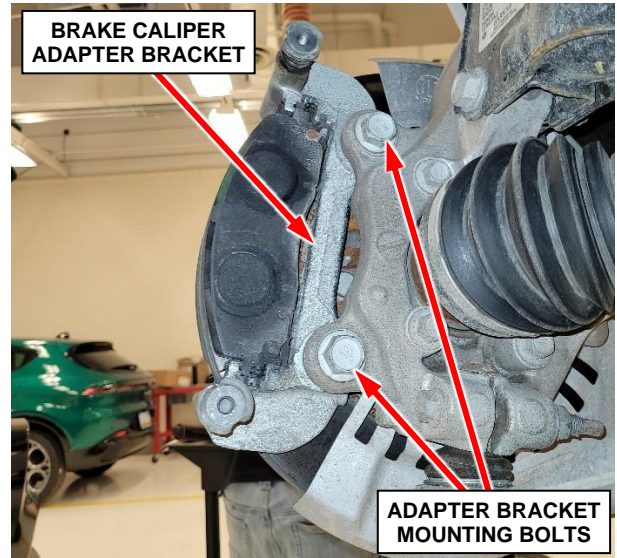

Figure 3 – Inspect Threads
5. Remove and **DISCARD** the front brake caliper adapter bracket mounting bolts (Figure 3).
12. Install the brake caliper adapter bracket with brake pads onto the brake rotor and steering knuckle (Figure 3).
14. Install the brake caliper adapter bracket mounting bolts and tighten to 202 N·m (149 ft. lbs.) (Figure 3).